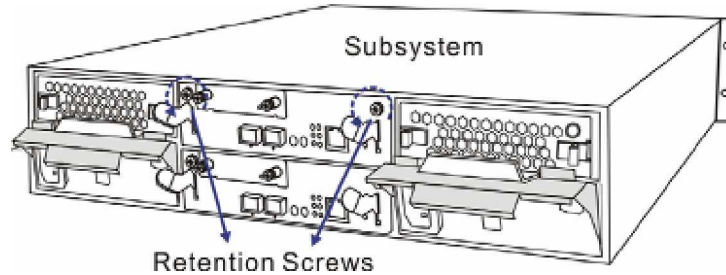

Figure 5-1: Removing the Controller Module Screws
-  **Step 2. Remove the screws** on the levers at the back of the controller module. (See **Figure 5-1**)